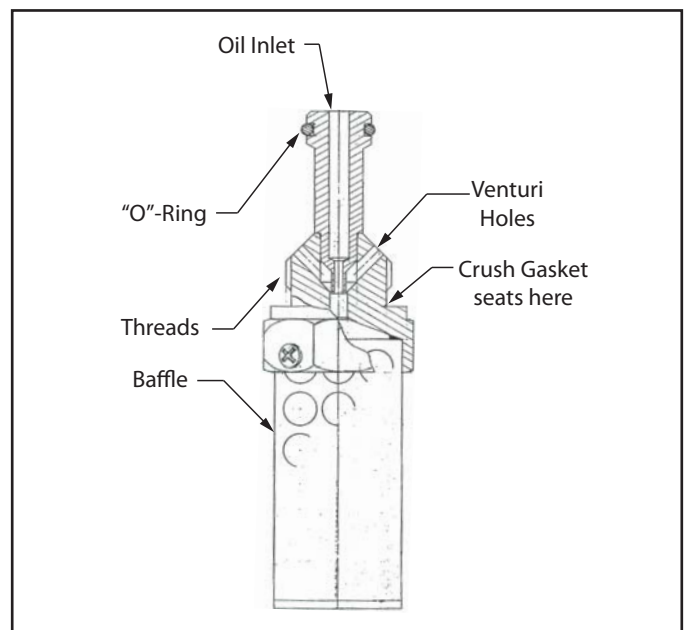

Figure 13 Mist Nozzle Assembly
1. Disconnect Air Inlet Tube (15) from mist head.
2. Remove Cover (2) from mist head and cover from electrical junction box (behind mist head).
5. Remove four mist head Screws (4) and carefully lift mist head assembly out of the reservoir. Take care to prevent damage to Oil Heater (27) as head assembly is removed. Discard mist head O-ring (14).
6. Remove Nozzle (13). Discard Copper Gasket (12) and O-ring (11).
7. Remove Inlet Screen (26).
8. Loosen Setscrew (5) and remove Oil Adjustment Screw (7).
9. Clean the Nozzle (13) (oil inlet bore at top of nozzle and angled venturi holes just above nozzle threads as shown in figure 13), the Inlet Screen (26), the Oil Adjustment Screw (7), and its seat in the Mist Head using a suitable solvent.